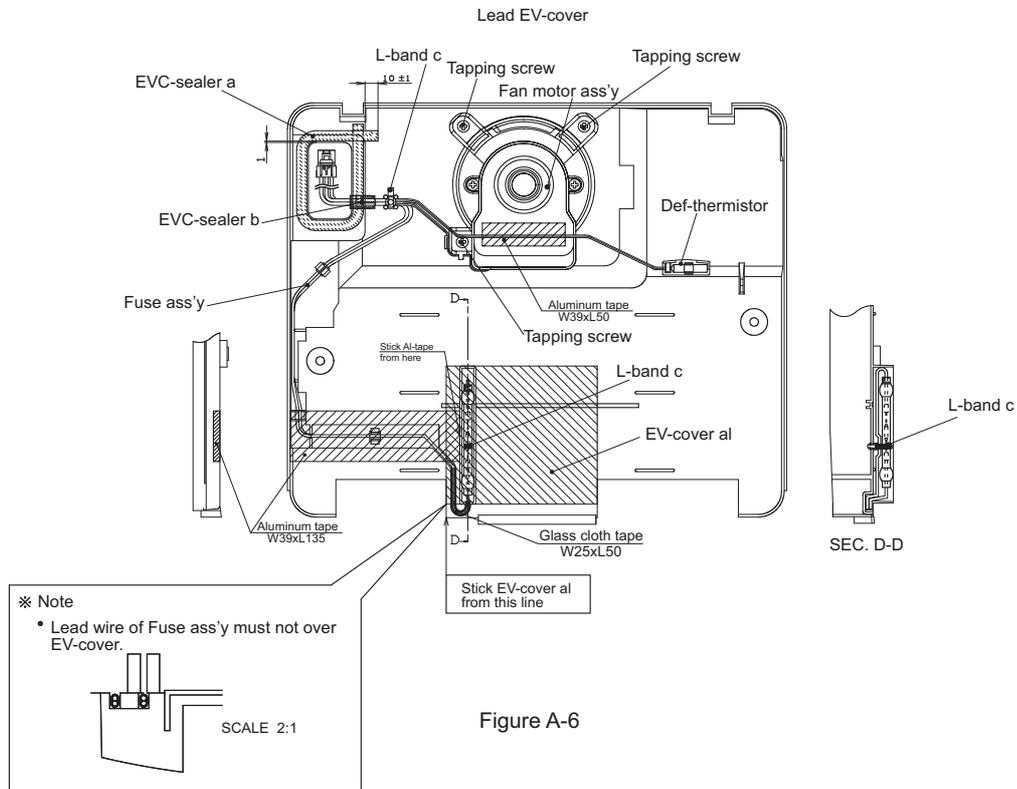

Figure A-6
3. Set Fan motor ass'y to EV-cover. Then Fix with 3 tapping screw(Figure A-6) .